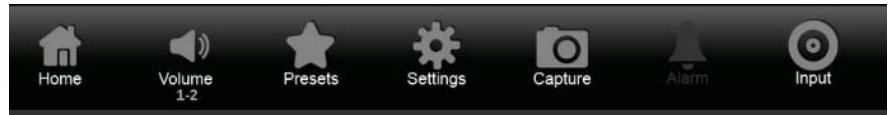

Figure 84: Application bar – Capture
3. On the application bar select the Capture icon. A screenshot is saved to the device. (See Figure 84.)